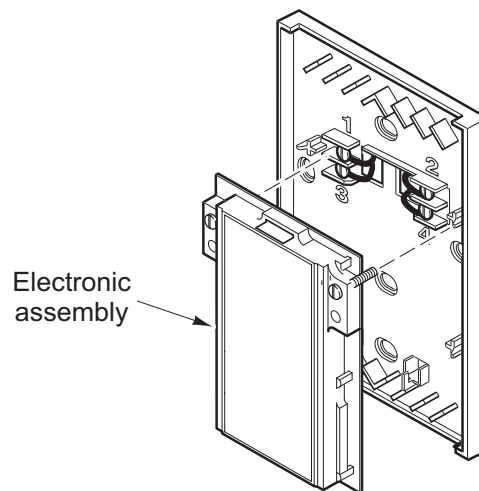

Figure-8 Electronic Assembly Installation.
2. Secure electronic assembly to base plate by tightening two screws at top of assembly (Figure-8).